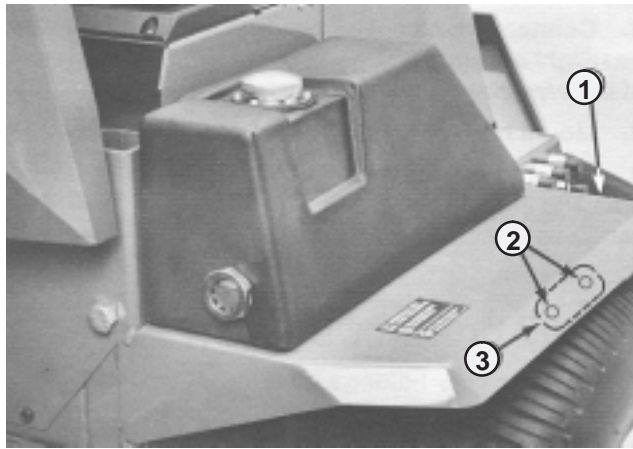

Figure 6
1. Position a rectangular fender reflector in the center of each fender lip as shown in figure 6.